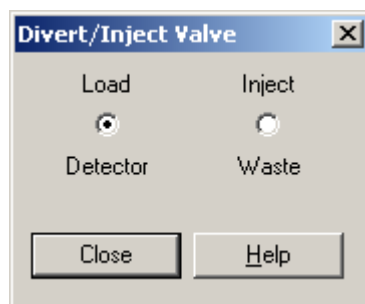

Figure 4-5. Divert/Inject Valve dialog box
- a. Click on the Divert/Inject button to open the Divert/Inject Valve dialog box. See Figure 4-5.